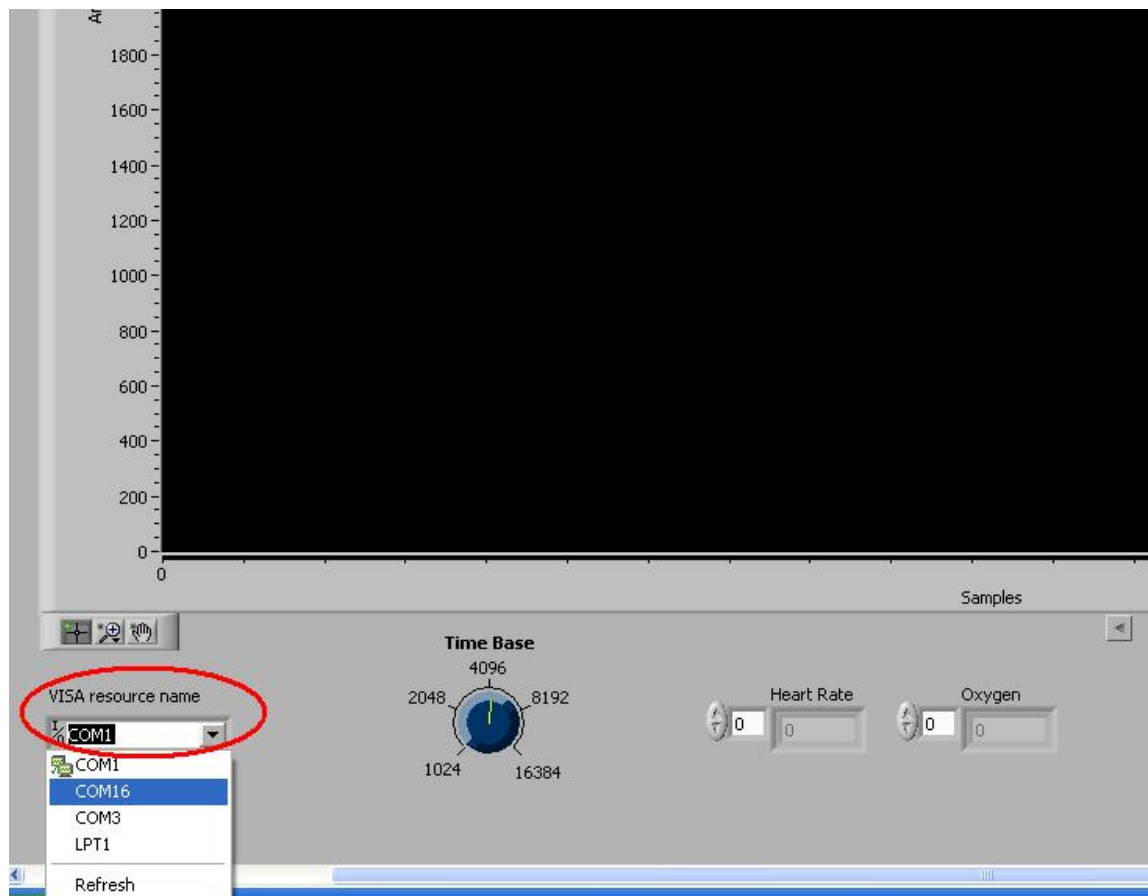

Figure 3. PulseOx Monitor GUI Window – COM Port Select
- Once the COM port assignment to the USB device is determined, the serial port drop-down menu (VISA resource name) located at the lower left portion of the GUI screen is used to select the COM port label to which the USB device is connected. Figure 3 shows the screen-shot of the VISA resource name drop-down menu of the GUI.